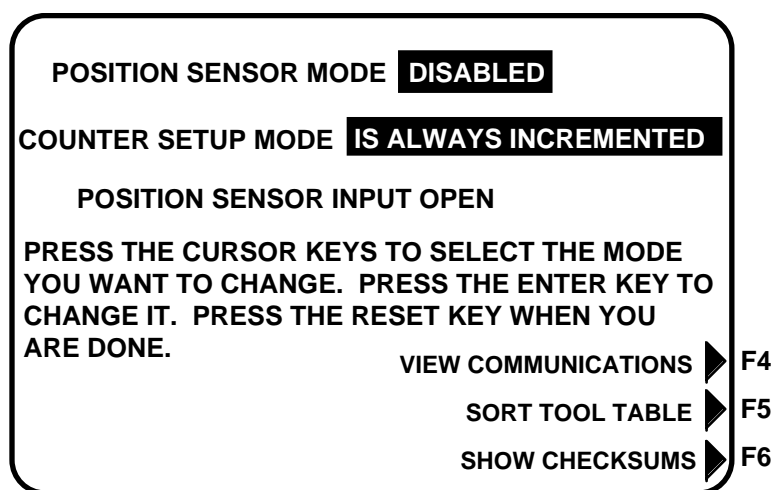

Figure 2-8. Position sensor display in Initialization
2. With SmartPAC on, go into the Initialization mode and select "Position sensor" from the menu to see this display (Figure 2-8). Press Enter so that the top line in the display above reads: "POSITION SENSOR DISABLED".